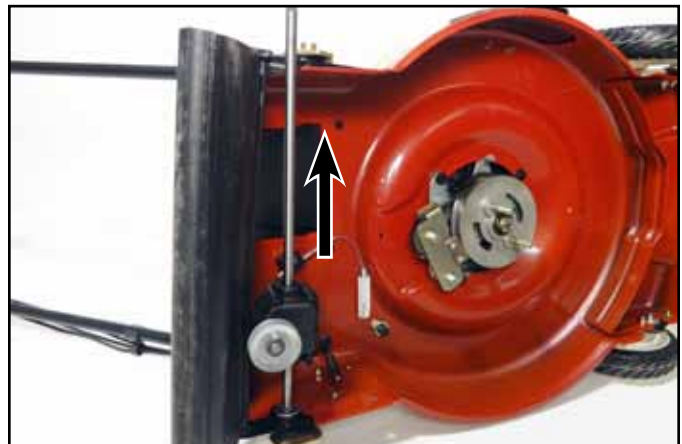

Fig. 146 PICT-007
5. Once the transmission is out of the right side bearing retainer and pivot arm, slide the transmission toward the right side and out of the left hand bearing retainer and pivot arm (Fig. 146).